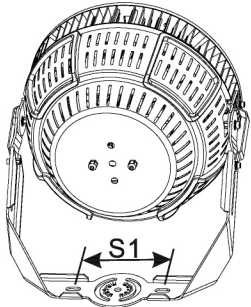

Figure 1
1. Mark the hole distance S1 shown in the product to be installed (Figure 1);